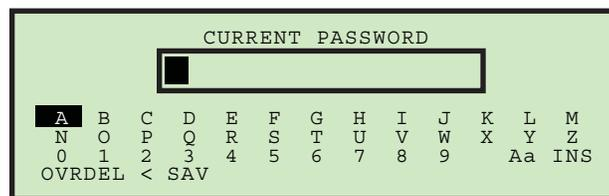

Figure 3-19: Current Password screen
3. Press **Enter** to display the **CURRENT PASSWORD** screen (Figure 3-19).